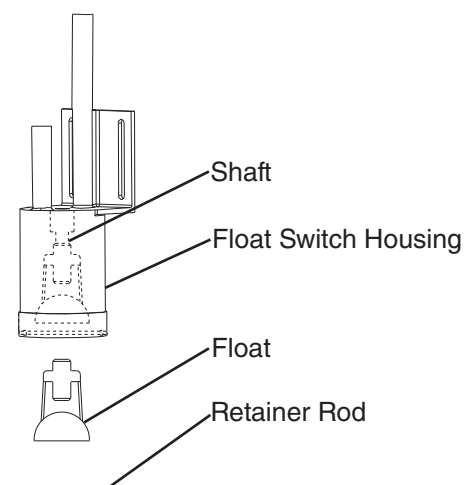

Fig. 8
- 5) Remove the spring retainer clip from the float switch rod, then remove the float. Be careful not to bend the spring retainer clip excessively when removing it. See Fig. 8.